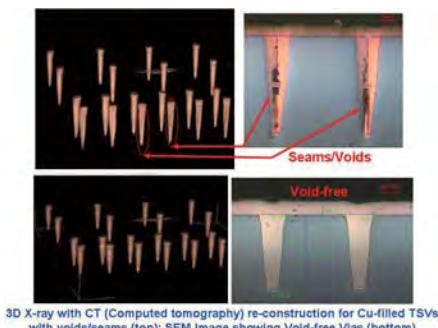
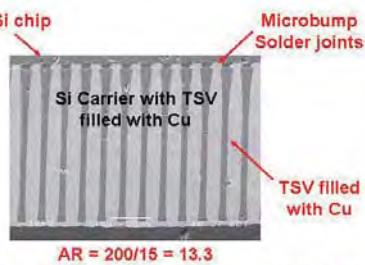

Figure 8. 3D X-ray with CT reconstruction for Cu-filled TSVs
Figure 10. Cross section showing the high aspect ratio (13.3/1) TSV
Figure 8 and **Figure 9** show a high performance chip which (cannot be supported by an organic bismaleimide triazene (BT)-substrate) is supported by a passive TSV interposer (Si-substrate) with
two redistribution layers on top and one at the bottom^{7,8}. A very simple BT-substrate is used to fan out all the I/Os, power, and ground to the PCB. The advance of semiconductor technology (because of Moore’s law) is many times faster than that of PCB, BT, and polyimide technologies, thus silicon is used as the substrate to reduce the cap. **Figure 9** shows the TSV with RDL wafer and the chip with its cross sections clearly showing the RDLs of the interposer^{7,8}. **Figure 8** (top) shows a 3D X-ray with computed tomographies (CT) reconstruction of the Cu-filled TSVs with seams/voids. After process improvements, **Figure 8** (bottom) shows a 3D X-ray with CT reconstruction of the Cu-filled, void-free TSVs. Thus, 3D X-ray is a powerful tool for nondestructive inspection of TSV. **Figure 10** shows a very high-performance Si memory chip attached to a microprocessor chip (active Si interposer) with 2400 TSVs on a 25µm pitch and the aspect ratio (thickness/via-diameter) AR = 200/15 = 13.3⁹.